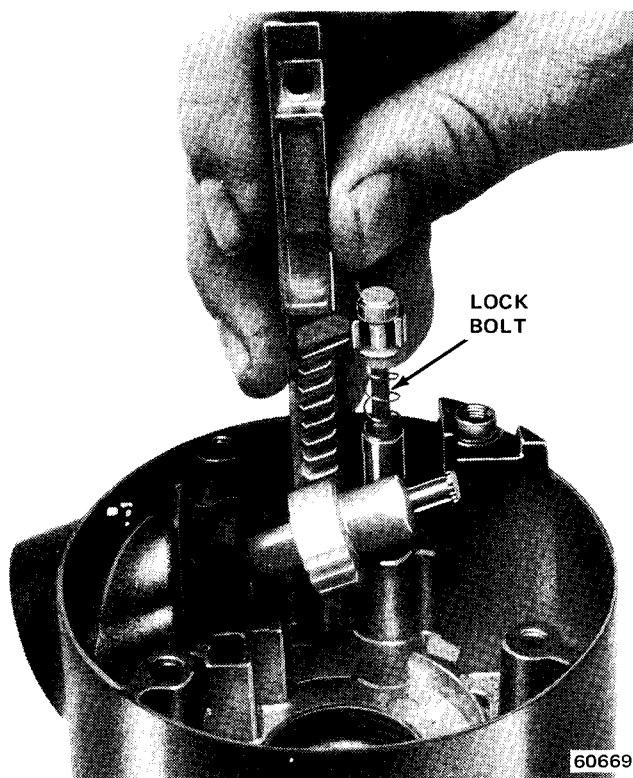

Fig. 11-15 Removing Rack and Lock Bolt
(19) Remove rack and lock bolt assembly (fig. 11-15).